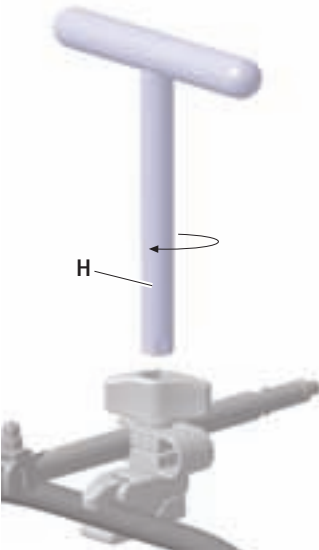

Fig. 8
- Tighten fastening nut **1** until the clamp is fully closed. If necessary tighten further with T-wrench **H**, see Fig. 8.